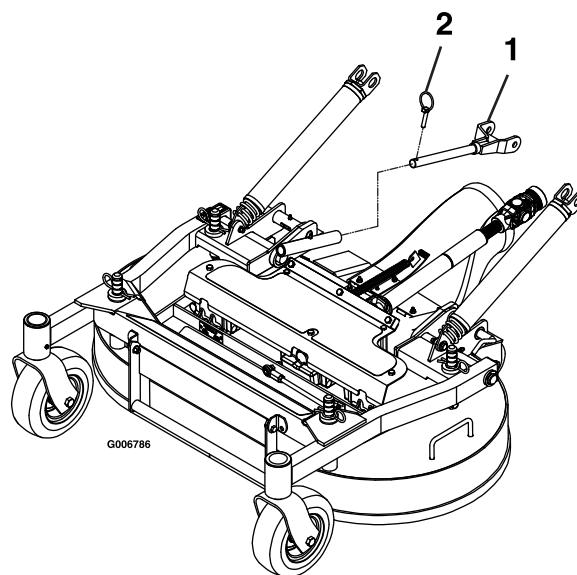

Figure 4
4. Align deck push arm tubes to tractor push arms and push deck rearward. Secure push arms with lynch pins on left and right sides of the unit (see Figure 4).
6. Remove lynch pins at front of push arms on both sides of the unit (see Figure 4).